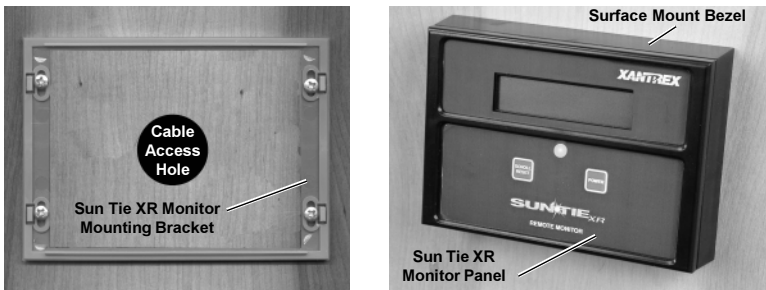

Figure 2-3
- Mount the bracket using the screws (and anchors if necessary) supplied (Figure 2-3). Do not overtighten the screws.